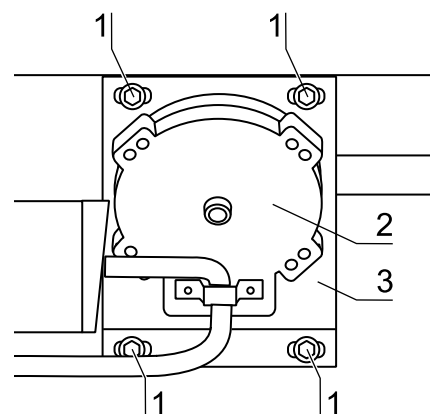

Fig. 34
5. Remove the following position switches (Section 12.8, Fig. 34):
7. **Fig. 34:** Remove the cable retainers [2] on both sides of the front window. Remove the nuts [4] and remove the cable retainer from the recess [3] on the frame.